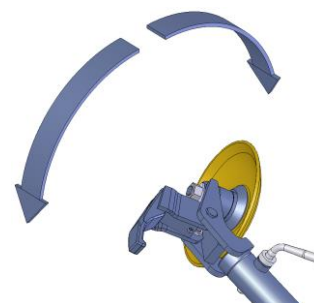
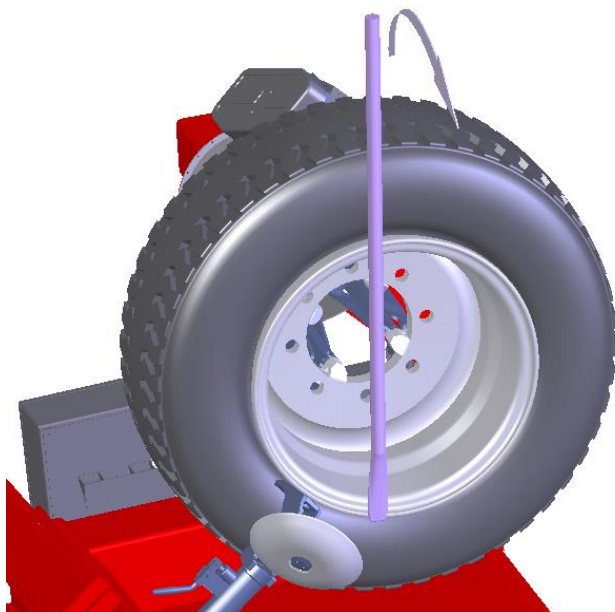

Fig.6 – WORKING ARM
Fig. 18
- Tilt the tool arm and move it back of the tyre pressing the pedal. Using the lever swing the tool into position 2 then re-attach the tool arm to the trolley. Use the control to move the tool against the tyre with the control until the bead is hooked on Fig. 18, put the tyre into tension moving the rim away from the tool so that the bead enters the channel.
- Insert the special lever (Fig. 18/ Fig. 6) between the rim and bead to the right of the tool to ensure that the bead remains on the tool. Move the rim towards the tool again (Fig. 18) until the front bead has completely come out. Rest the wheel on the trolley platform to obtain working space for the easy removal of the inner tube.